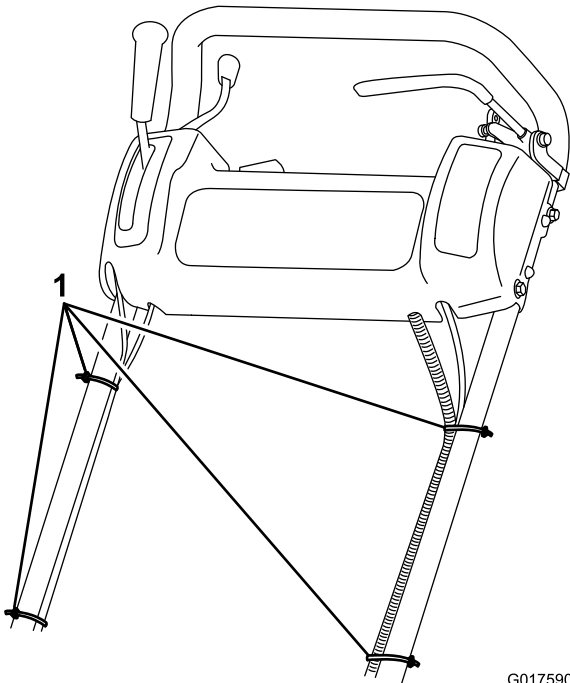

Figure 4
7. Secure the cables and wire harness to the handle with cable ties (Figure 4).